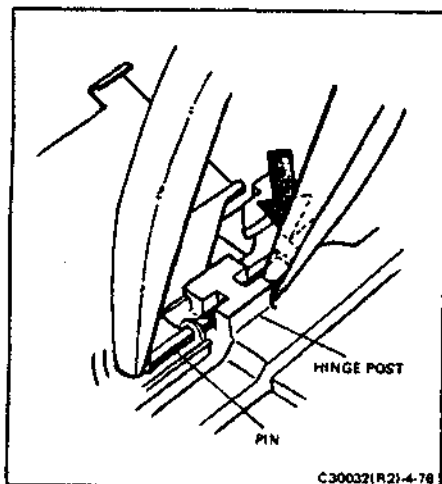

FIGURE 4-76 USING PLIERS TO INSERT LIGHT BAFFLE HINGE PIN
2. Using tweezers or needle-nose pliers, insert the end of the pins into the hinge holes from the center of the camera (Figure 4-76).
3. Install the baffle with its spring on the right-hand pin. Use pliers with one jaw on the outside of the hinge post and squeeze the pin outwards until it reaches the stop (Figure 4-76).